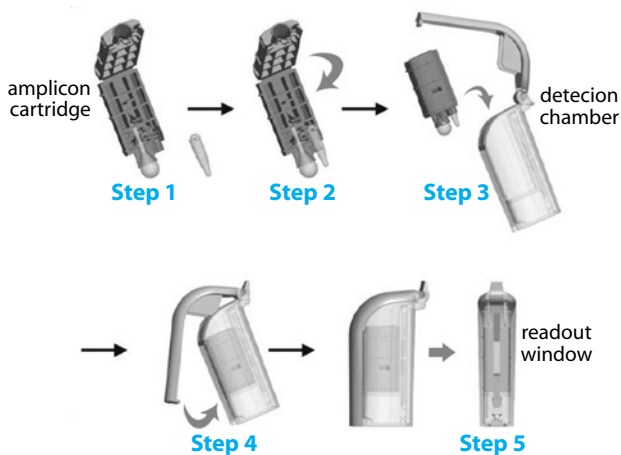

Figure 1. Diagrams for detection procedure.
- 3.2. Insert the reaction tube in an amplicon cartridge next to running buffer (Fig. 1, step 1). Fold the cartridge in half and firmly close it (Fig. 1, step 2), revealing an arrow on the top.
- 3.3. Insert the closed cartridge halfway in a detection chamber (Fig. 1, step 3), with the arrow pointing the DNA test strip: do not use force to push it down.
- 3.4. Keep the assembled cassette upright and lower the handle and push it into the chamber body to close the cassette (Fig. 1, step 4). The handle will push the cartridge down, and lock into place when closed completely (Fig. 1, step 5).